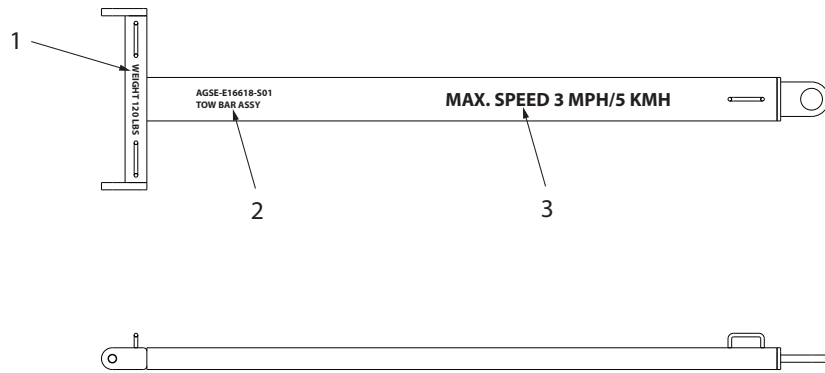

Figure 9.2.3-1
9.2.3 Tow Bar Stencils (Figures 9.2.3-1)